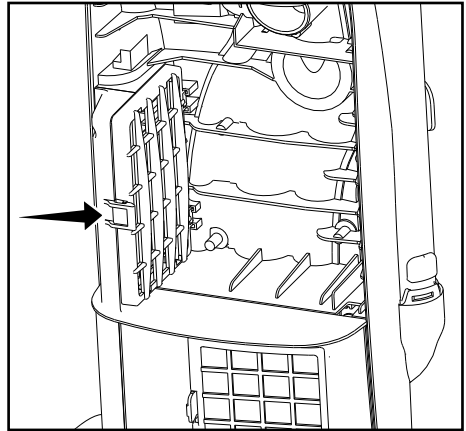

Fig. 1
- Pull the front tab away from the vacuum to remove the filter holder (Fig. 1).